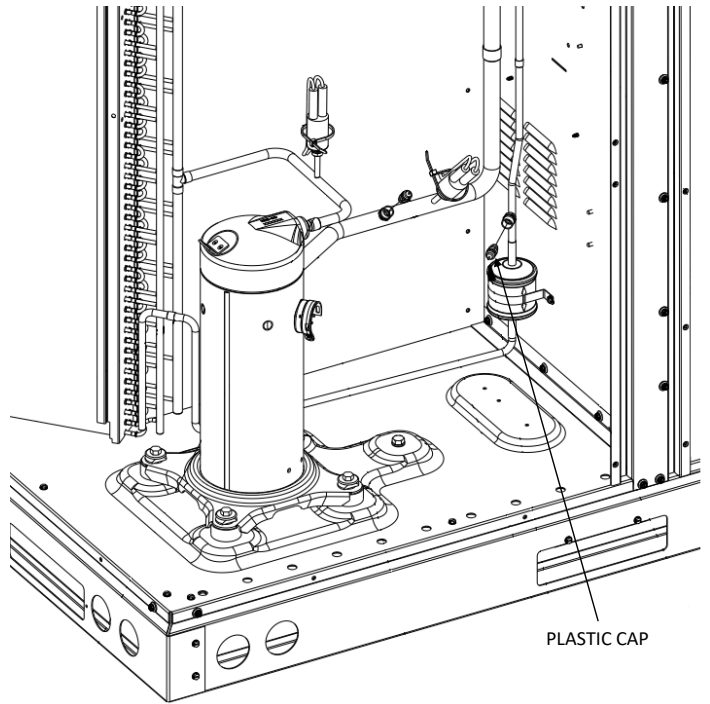

FIGURE 5
- Remove the plastic cap from the liquid line access fitting. See Figure 5.